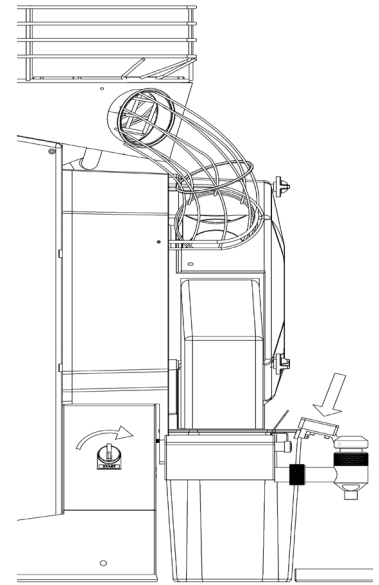

Figure 7
Caution : To start the Fresh model, you have to turn the on / off button switch (64) clockwise to the open position and then apply pressure on the tap (63) **(Figure 7)**.